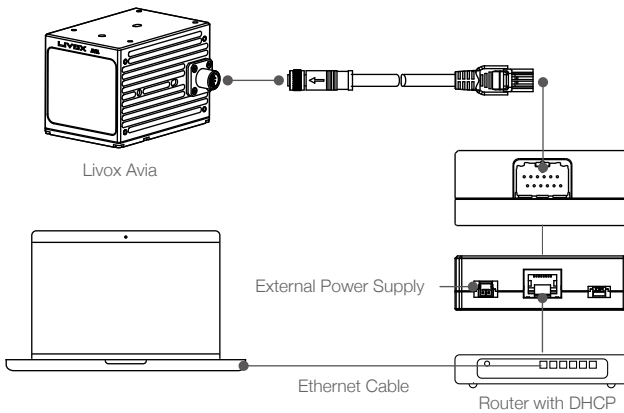

Figure 4.2.2 Connecting using dynamic IP address
5. Connect the Avia, conversion cable, Livox Converter 2.0, router, computer, and external power supply by following Figure 4.2.2.